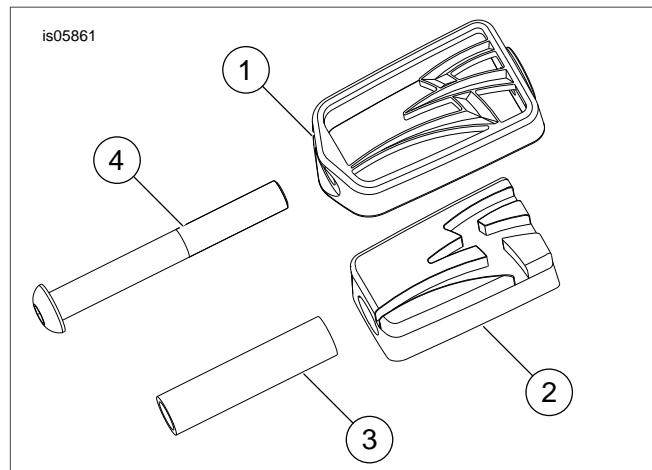

Figure 1. Service Parts: Tribal Shifter Peg
See Figure 1 and Table 1.
See Figure 1. Shifter peg casting (1), tread (2) and spacer tube (3) come pre-assembled in kit.
2. See Figure 1. Install shifter peg assembly to shift lever with screw (4). Orient pattern to desired position and tighten screw to 16.3-19 Nm (12-14 ft-lbs).